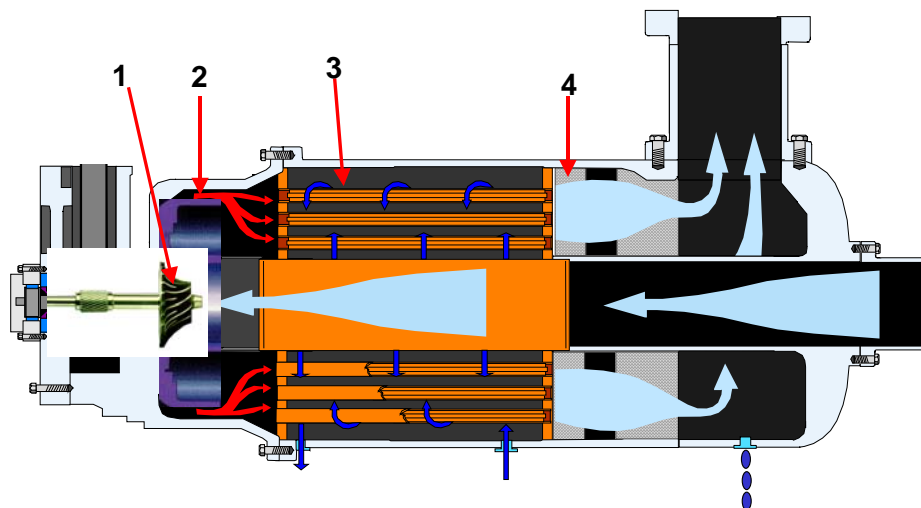

Figure 2.1
The Centac compressor is a dynamic centrifugal type compressor. As shown in Figure 2.1, air enters the compressor through the machine mounted inlet control valve and flows to the first stage where the impeller (1) imparts velocity to the air. The air proceeds through the stationary diffuser section (2) that converts velocity to pressure. The built-in intercooler (3) removes the heat of compression, which improves efficiency. Air then passes through a stainless steel moisture separator (4) in a low velocity zone to remove condensate. Entrained moisture in the air is reduced when the air is forced through stainless steel moisture separators. This sequence repeats in each succeeding stage until the compressor achieves the desired operating pressure.